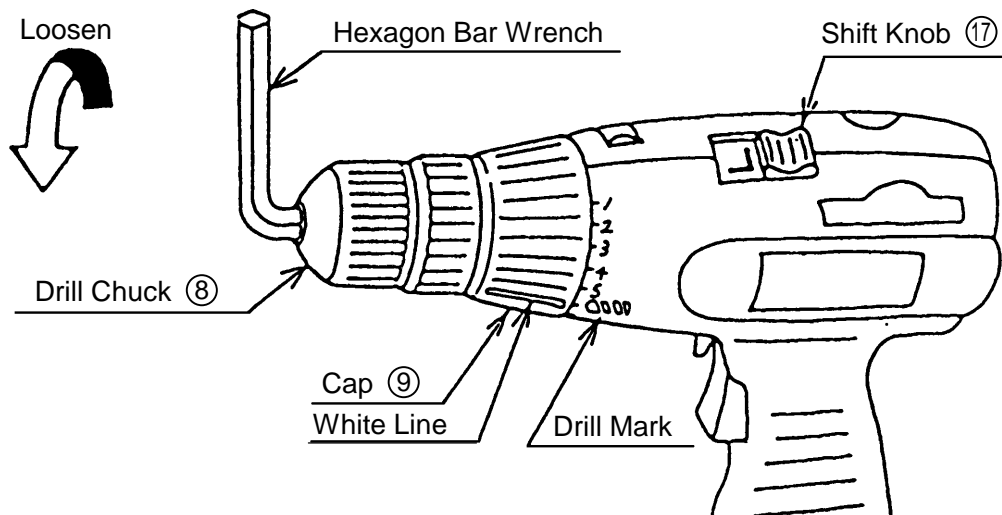

Fig. 1
(1) Removal of the Drill Chuck ⑧ : (Fig.1)